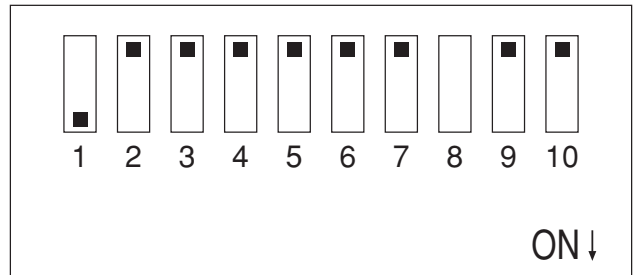

Fig.4 The Status of Dial-up (SW)
The status of dial-up (SW) is shown in Fig.4. If the ID address is 1, communication mode is 10 bits: 1 start bit, 8 data bits, 1 stop bit and the baud rate is 9600bps.